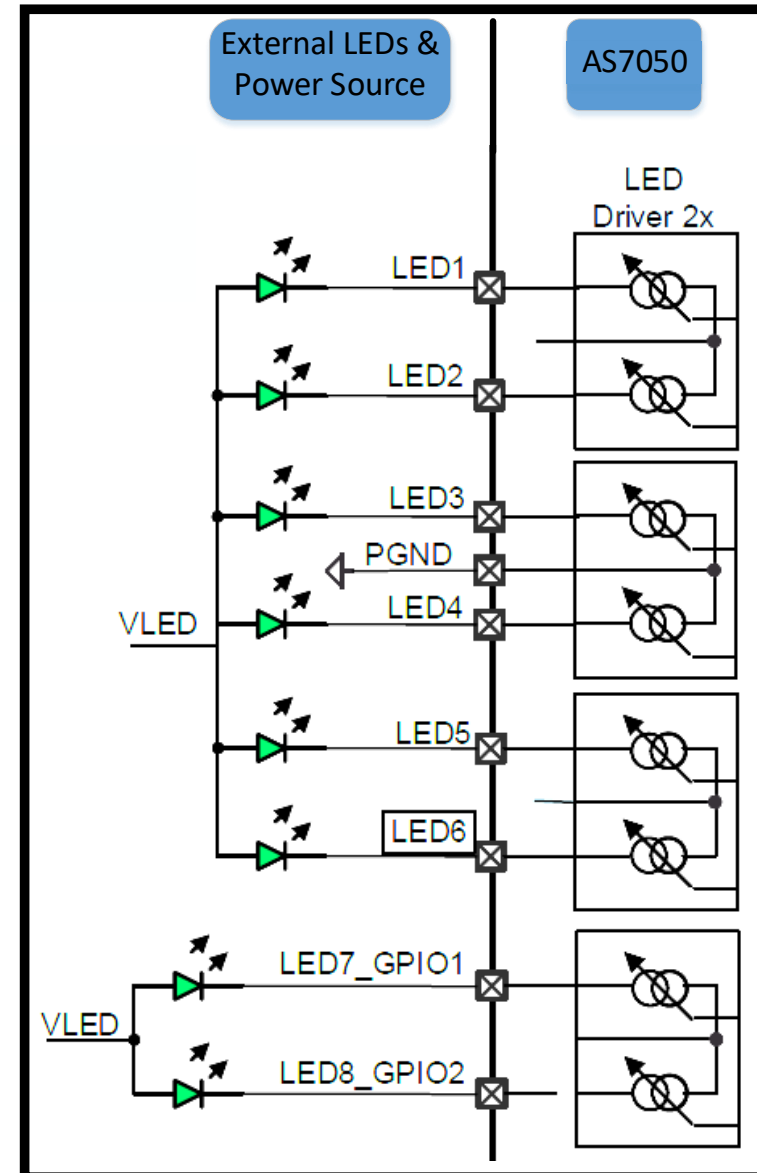

Fig. 12: AS7050 LED drivers
- *Fig 12* shows a basic idea of the PD connections.